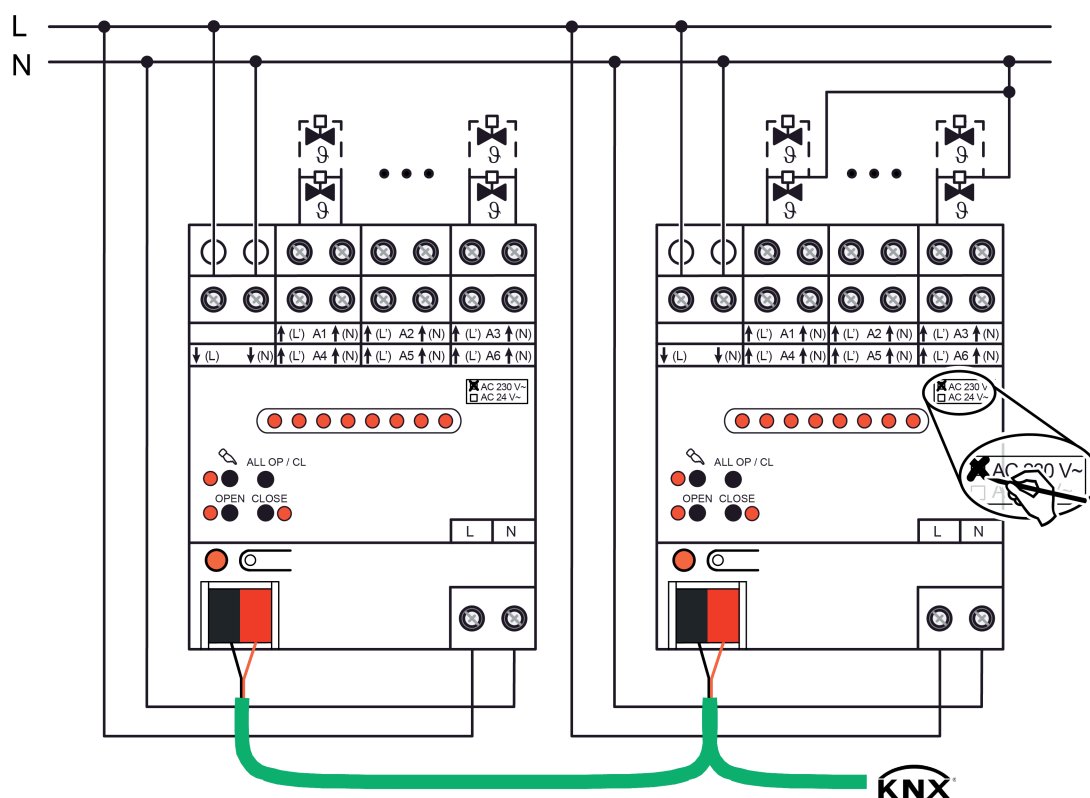

Figure 2: Connection for AC 230 V actuators (connection examples)
- Connect the AC 230 V valve drives according to the connection diagram (Figure 2). The neutral conductors of the actuators can either be connected directly to the N terminals of the outputs of the heating actuator (left-hand connection example) or, alternatively, jointly with a suitable N potential (e.g. N conductor terminal in the distributor) (right-hand connection example). It is not absolutely necessary to connect the neutral conductor of the actuators directly to the actuator.
- Connect the supply (mains voltage AC 230 V) for the actuators to the terminals ↓(L) and ↓(N) (1).
- Connecting the mains voltage to the terminals L N (5).